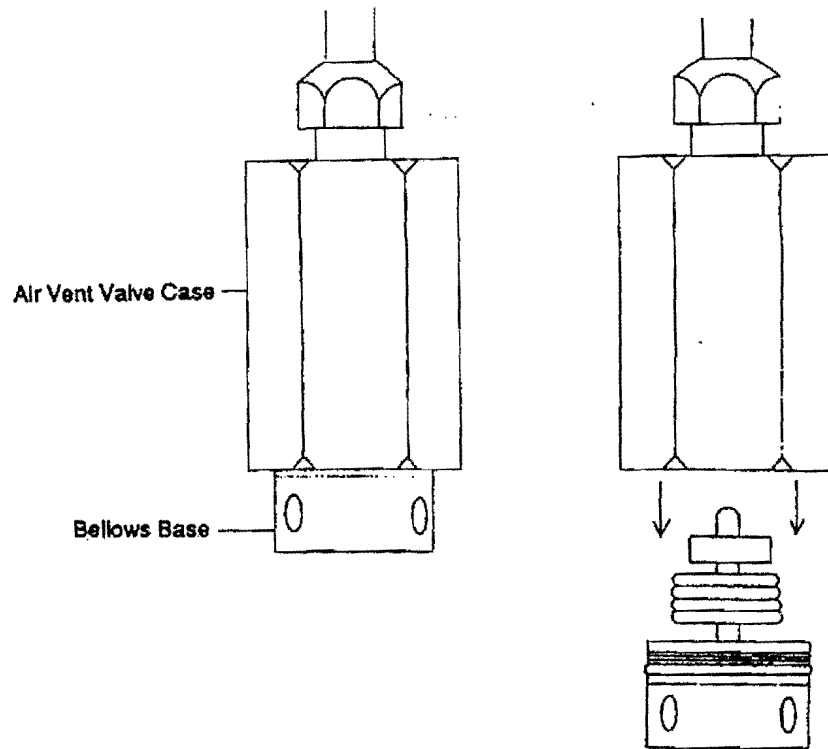

FIGURE 3-7, AIR VENT VALVE CASE
3. Turn the bellows base counterclockwise. The bellows base with the bellows can be removed from the Air Vent Valve Case. (See Figure 3-7)